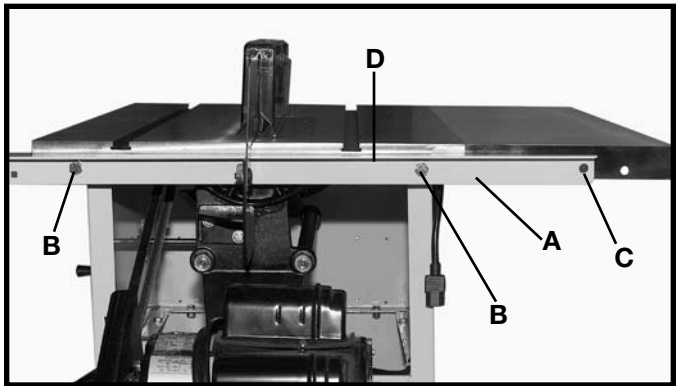

Fig. 50
6. Fasten the rear table support (A) Fig. 50 to the saw table. Insert a 3/8-16 x 1" hex head screw (B), through hole in rear support and table, place a 3/8" washer onto the screw and thread a 3/8-16 hex nut onto screw and tighten. Repeat this process for the remaining hole. Hole (C) is not used on cast iron wing.